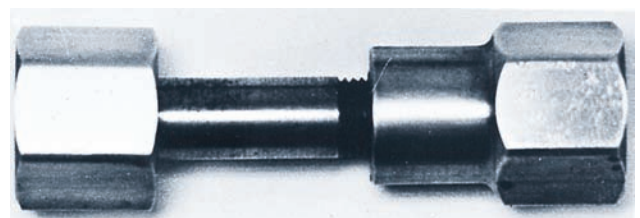

FIGURE 3-8 Carbon dioxide-to-argon adapter. Courtesy of Larry Jeffus.
ment methods are: (1) adapt a left-hand male acetylene cylinder fitting to a right-hand female regulator fitting, or vice versa, and (2) adapt an argon or mixed gas male fitting to a female flat washer type CO₂ fitting, Figure 3-8.